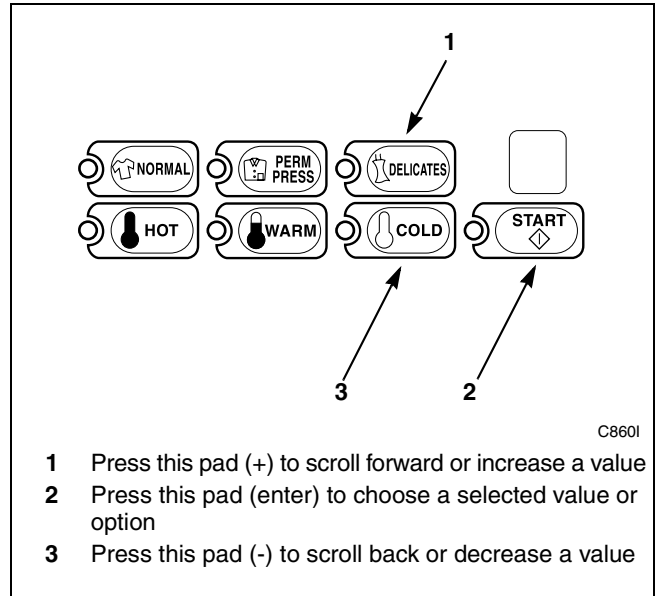

Figure 152
5. Press the DELICATES (+) or the COLD (-) keypad to increase or decrease the current number of minutes displayed in the VFD to the desired number of minutes. Refer to *Figure 152*.
**NOTE: The Permanent Press Final Spin Time can be set from zero (0) to 15 minutes.**